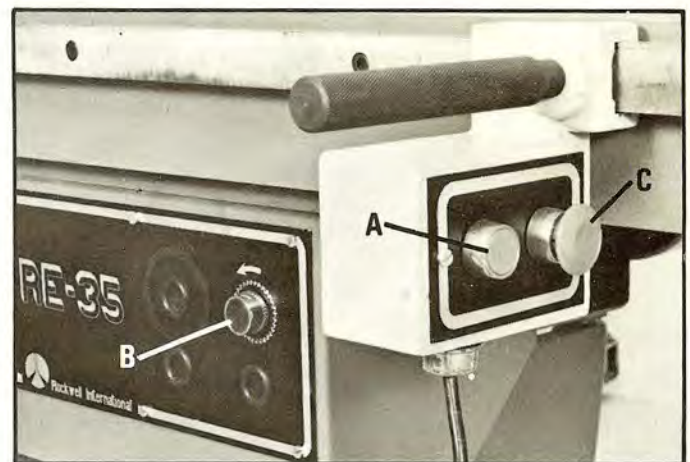

Fig. 34
The saw is started by pressing start button (A) Fig. 34. The scoring blade is started by pressing button (B). Pressing button (B) a second time will stop the scoring blade. Pressing stop button (C) will stop both the saw blade and the scoring blade.
If both blades have been stopped by pressing stop button (C) Fig. 34, then pressing start button (A) will restart both blades.